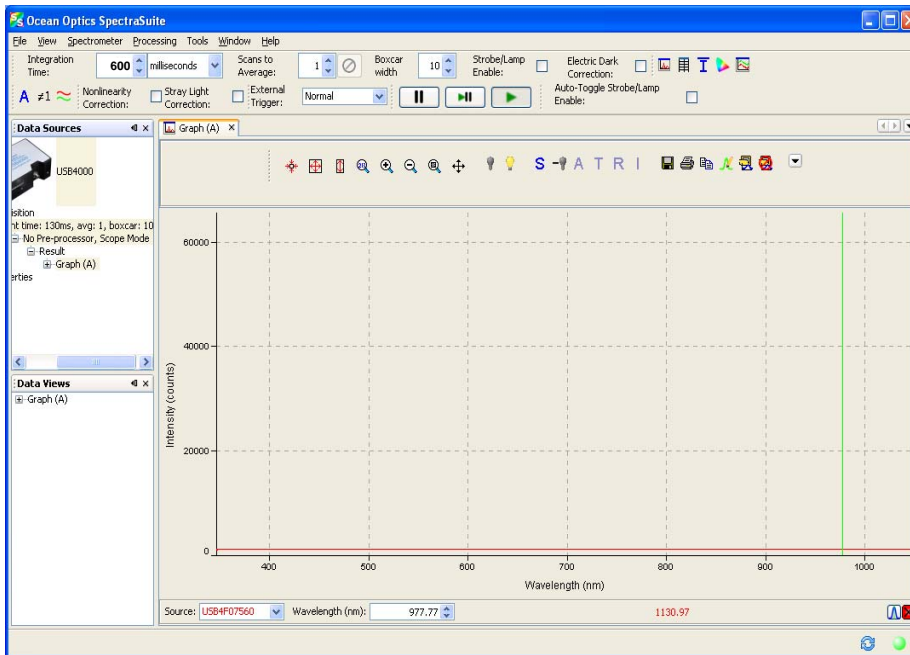

Figure 6. Dark spectrum – the background signal when the light source is turned off
2. Double-click the SpectraSuite icon to start the operating software. The program is automatically measuring the light intensity entering the spectrometer when it first starts. With the light source turned off, the curve in the spectral area should be a flat line at a certain intensity value (Fig. 6). This value represents the background electronic noise. If there are any peaks or curves seen at this time, it is a symptom of stray light entering the spectrometer. Please check the instrument installation for possible optical leakage or the trouble-shooting guide. At this point, the program can only display the light intensity with **S** being the only highlighted measurement icon. It is because the required information is not yet ready for absorbance, transmission rate, reflectivity, and irradiance measurement. The next few steps will describe how to enter the parameters on the program to prepare for the transmission measurements.
2. The program is automatically measuring the light intensity entering the spectrometer when it first starts. With the light source turned off, the curve in the spectral area should be a flat line at a certain intensity value (Fig. 6). This value represents the background electronic noise. If there are any peaks or curves seen at this time, it is a symptom of stray light entering the spectrometer. Please check the instrument installation for possible optical leakage or the trouble-shooting guide. At this point, the program can only display the light intensity with **S** being the only highlighted measurement icon. It is because the required information is not yet ready for absorbance, transmission rate, reflectivity, and irradiance measurement. The next few steps will describe how to enter the parameters on the program to prepare for the reflectivity measurements.